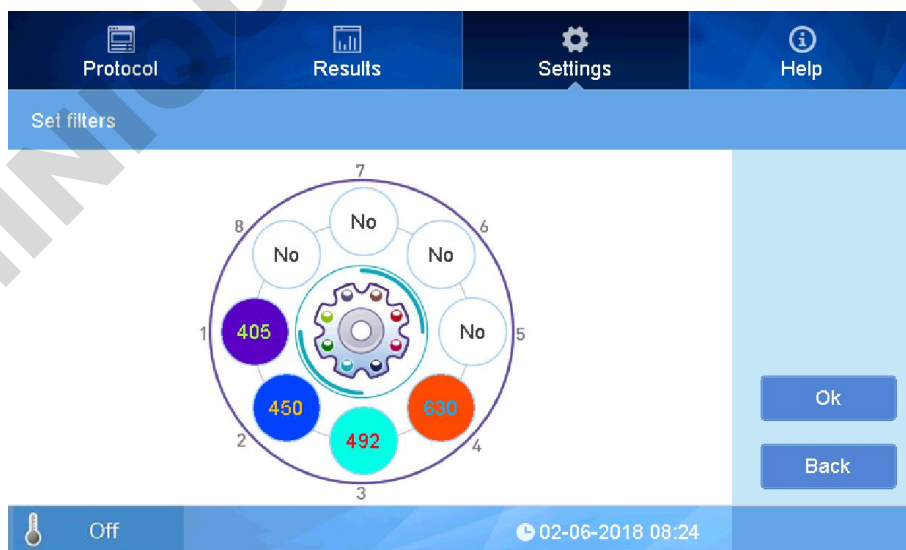

fig 49
- Click Filter icon in interface of setting(Fig 49).